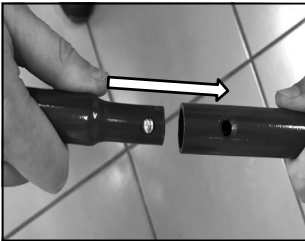

fig 1.
1. Ensuring the locking holes are aligned, insert the Upper Handle (5) into the Lower Handle (4) [fig.1].